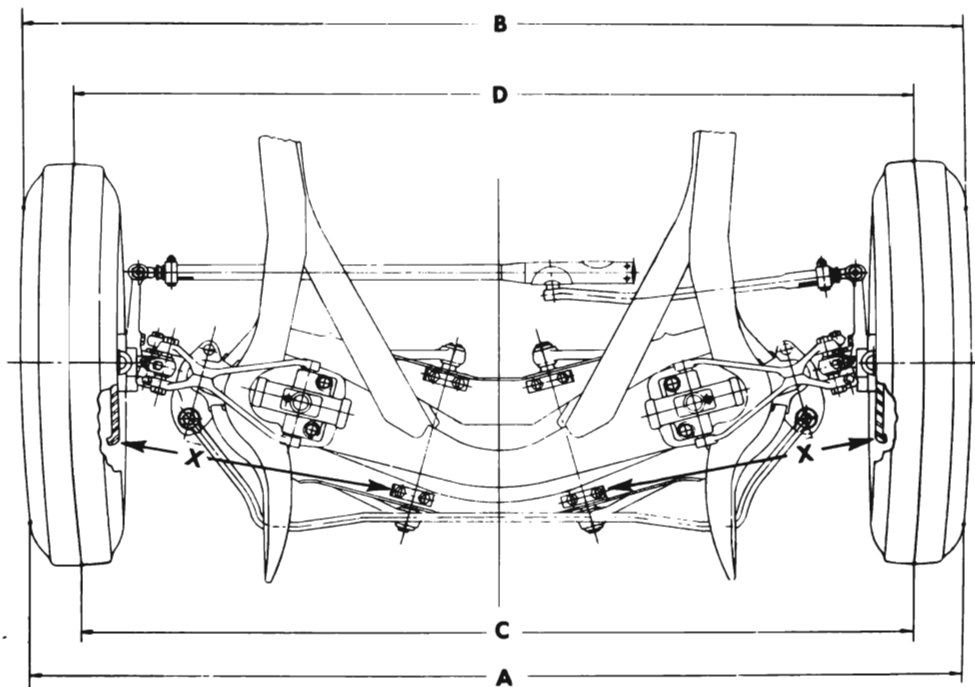

Figure 6-38—Front Wheel Toe-in
on each side. Adjust tie rods, if necessary, to make measurements equal on both sides. See figure 6-38 dimensions "X."
3. Using a suitable toe-in gauge, measure the distance between outside walls of tires at the front at approximately 10" from the floor. See figure 6-38 dimension "A." Mark points where gauge contacts tires. **NOTE:** An accurate check also can be made by raising and rotating front wheels to scribe a fine line near the center of each tire, then, with tires on the floor and front spring trim height correct, measure between scribed lines with a suitable trammel. See figure 6-38, dimension "C."
4. Roll the car forward until measuring points on tires are approximately 10" from the floor at the rear, and measure the distance between points used in Step 3 above. The measurement at the front (dimension "A" or "C") should be $\frac{1}{16}$ " to $\frac{1}{8}$ " less than the measurement at the rear (dimension "B" or "D"). See figure 6-38.